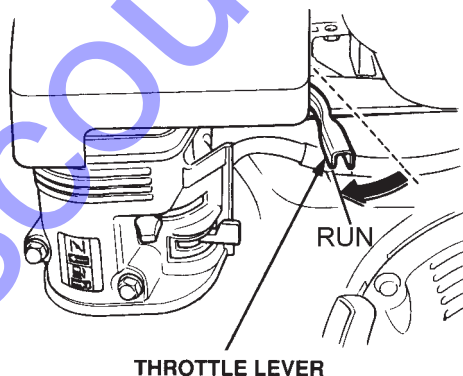

Figure 14. Throttle Lever (Run)
- To begin pumping, place the throttle lever (Figure 14) in the "RUN" position.